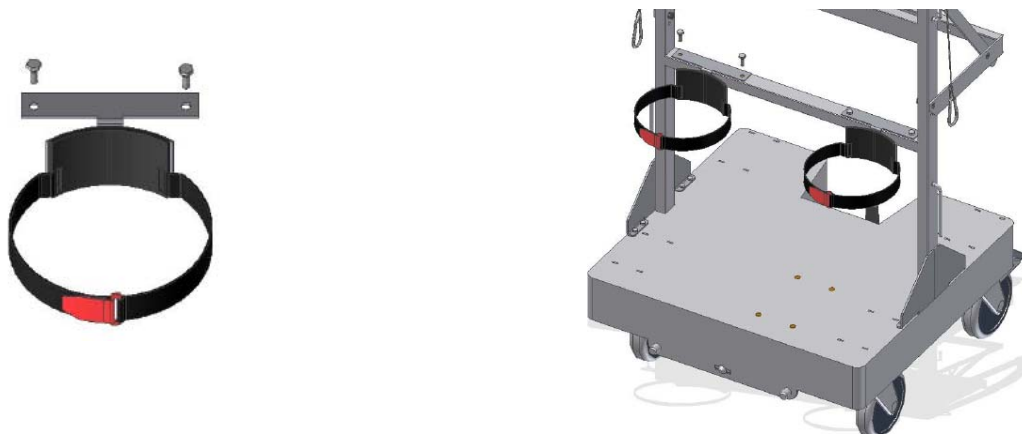

Figure 6 – Velcro® straps
- Locate and install the two (2) Velcro® straps that fix the carbon tanks with four (4) M6X16 screws (LMW P/N 3049412) (see Figure 6).